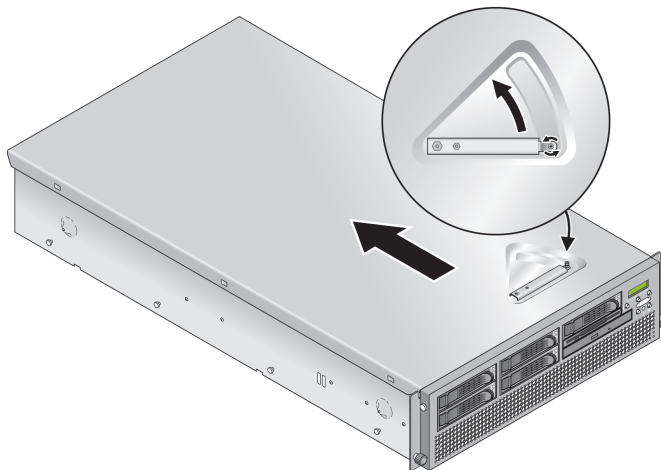

FIGURE 1-13 Removing the Cover of the Sun Fire V40z Server
- a. Loosen the captive screw on the cover latch, then rotate the latch toward the system rear to push back the cover (see FIGURE 1-13).